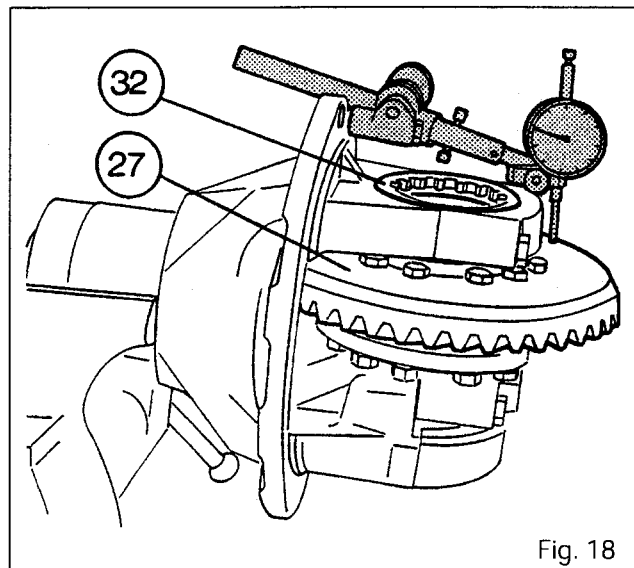

Fig. 18
72. Install the housing in the horizontal position in a soft-jawed vice, with the crownwheel facing upwards (Fig. 18).
73. Install a dial gauge. Tighten the nut **(32)** (Fig. 18) and rotate the crownwheel through several turns in order to correctly seat the bearing cones in the cups. Retighten the screw in order to take up the end play.